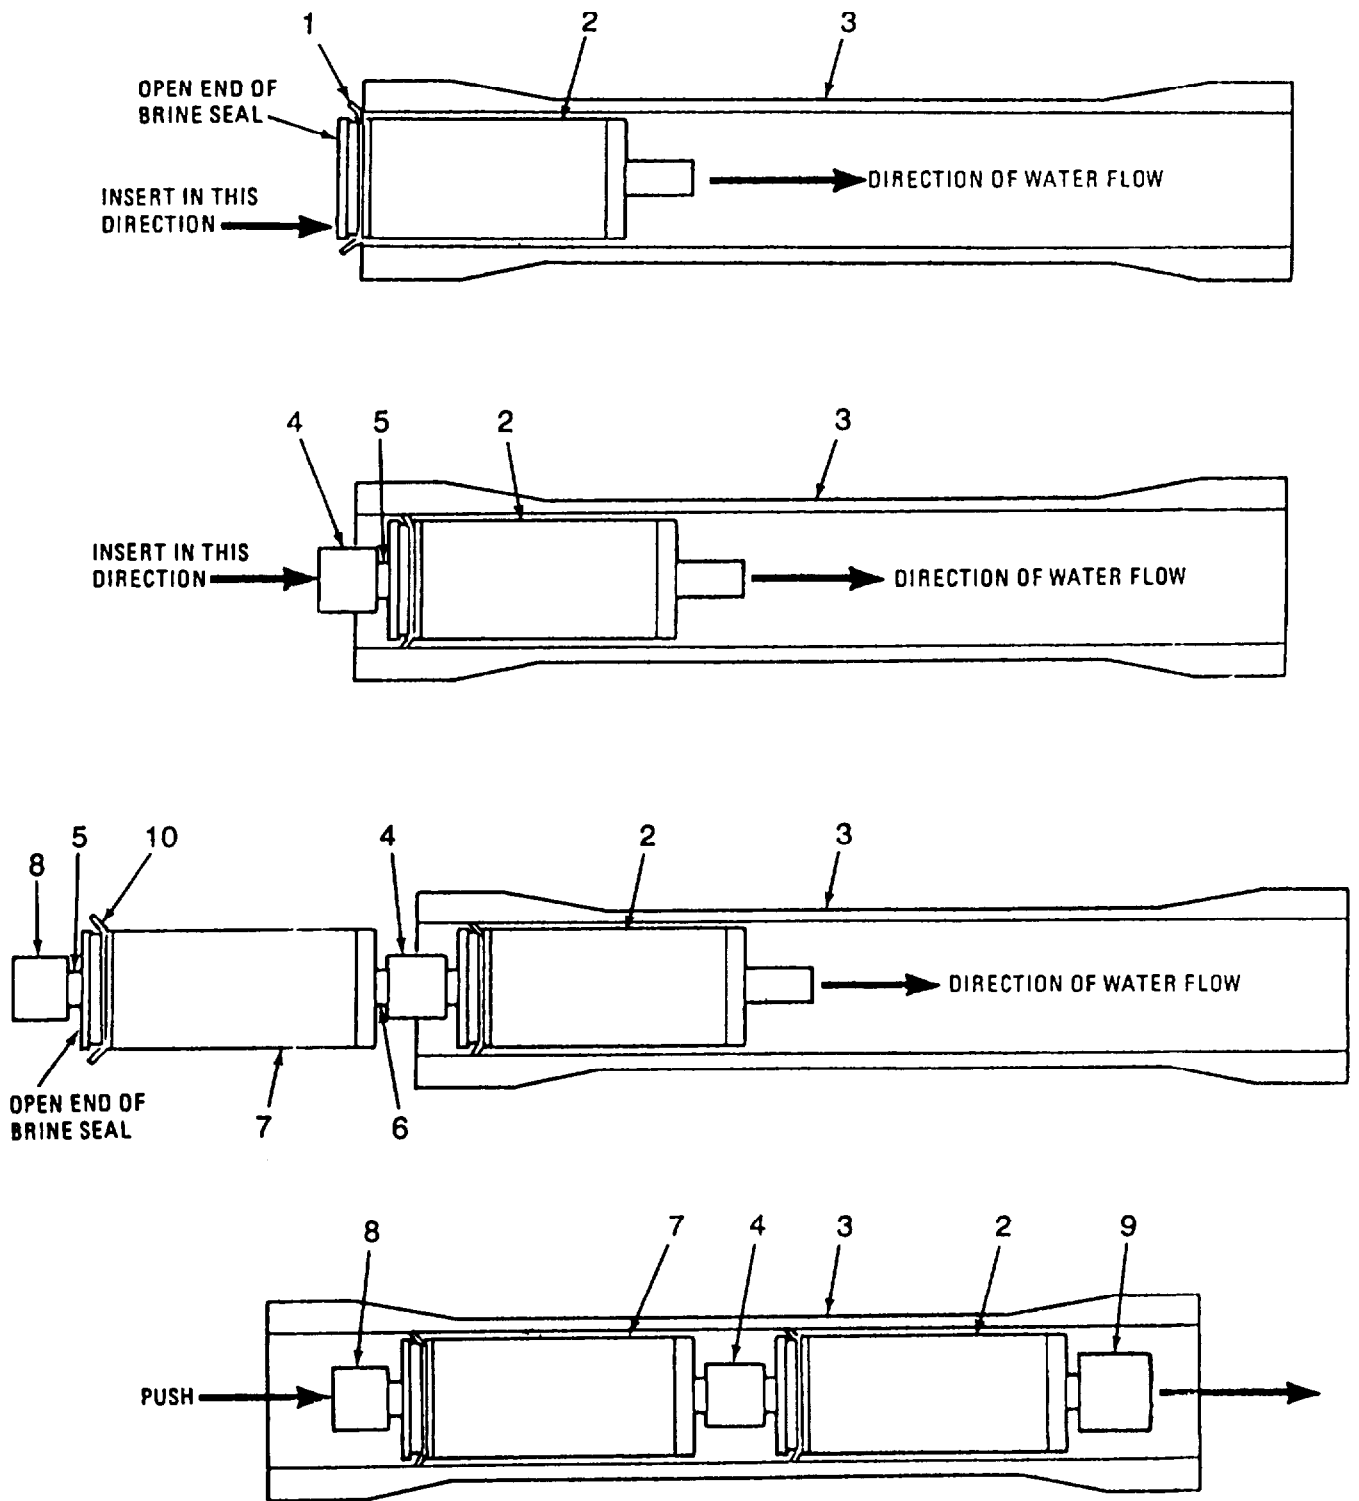

Figure 3-5. R.O. Element Installation
- (7) Lubricate brine seal (1, figure 3-5) with silicone grease from storage chest. Insert the first R.O. element (2) into the R.O. pressure tube (3) until brine seal (1) touches end of R.O. pressure tube.